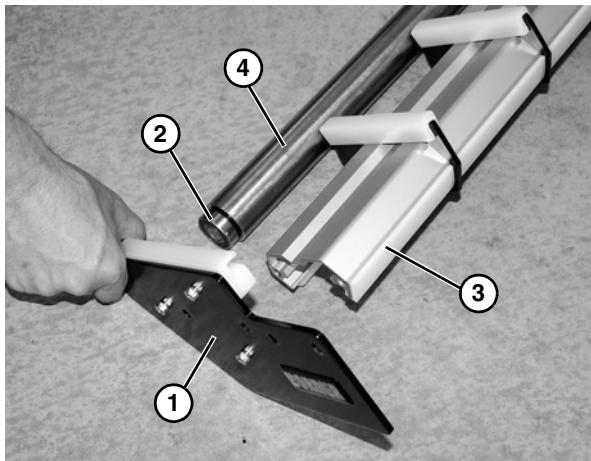

Figure 70
5. Remove plate (**Figure 70, item 1**) from shaft bearing (**Figure 70, item 2**) and crossmember (**Figure 70, item 3**). Repeat procedure on opposite side.
6. Remove shaft (**Figure 70, item 4**) from opposite end plate.